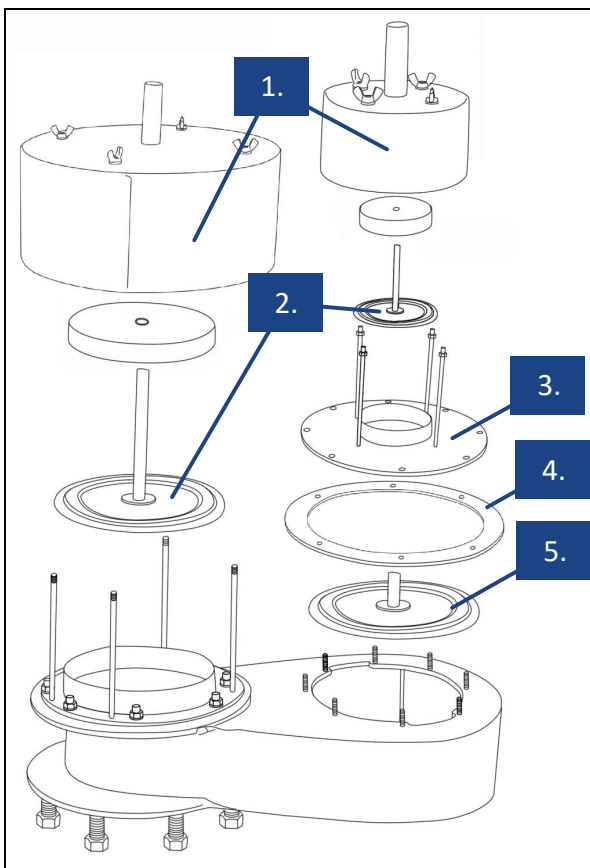

Figure 4. Vacuum-overpressure safety valve
1. Disassembly both lids (Figure 4 no. 1) of the safety valve by loosening the wing nuts on the top.
2. Depressurise the buffer tank by tilting one of the overpressure pallets (Figure 4 no. 2). This way, the nitrogen can escape from the tank. **Beware of the steam that forms by doing this! The pressure of the nitrogen blanket now turns to 0 mbar. This generates a 'Pressure Minimal' alarm on the nitrogen generator.**
3. Remove both pallets (Figure 4 no. 2) when all steam has been blown off.
4. Disassembly the cover mounted on the housing of the safety valve. (Figure 4 no. 3). This can clamp a bit because of the old gasket. The cover needs to be pried off by hand because of the risk of damage that would cause an inability to close off correctly.
5. Remove the old silicon gasket (Figure 4. no. 4) and renew the vacuum pallet (Figure 4. no. 5).
6. Place a new silicon gasket (Figure 4. no. 4) on the housing of the safety valve and mount the cover back on (Figure 4. no. 3). Tighten the nuts evenly.
7. Place new overpressure pallets (Figure 4. no. 2) and put the lead of the old pallets on the new pallets.
8. Place the lids of the safety valve (Figure 4. no. 1) back and attach it with the wing nuts.